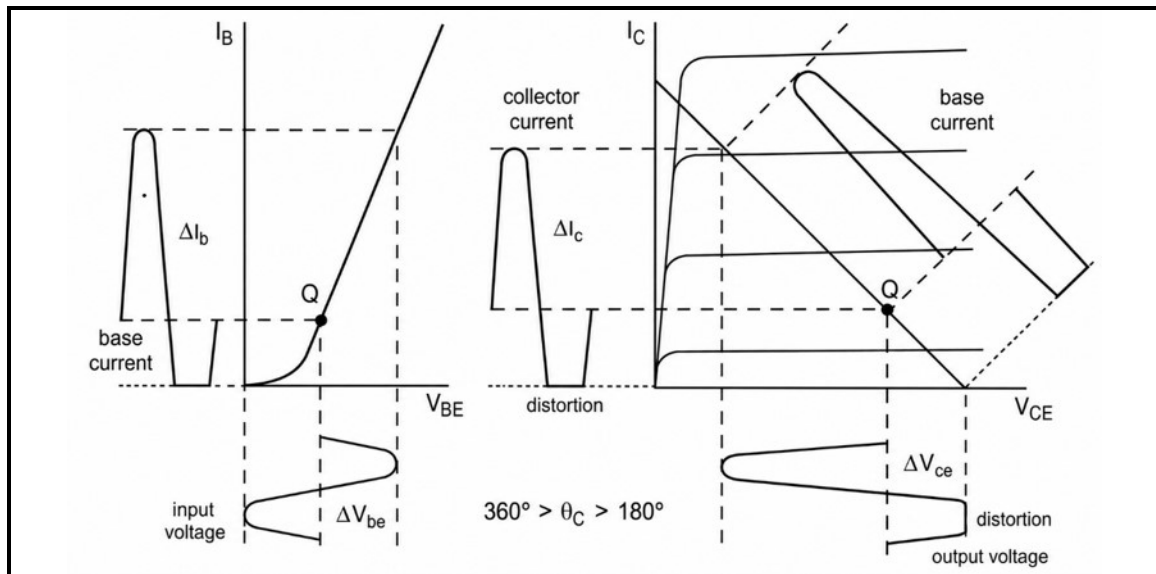

FIGURE 6.9: AMPLIFIER CHARACTERISTICS
- 6.9 FIGURE 6.9 shows the different characteristics of an amplifier. Analyse FIGURE 6.9 and answer the questions that follow.
- 6.9.1 Identify the class of amplifier shown in FIGURE 6.9. (1)
- 6.9.2 Determine the conduction angle for the amplifier shown in FIGURE 6.9. (2)